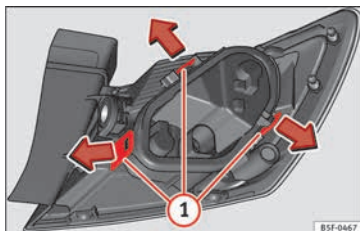

Fig. 117 Retaining tabs on reverse side of tail light.
- Remove the bulb holder » **Fig. 117** unlocking the retaining tabs **①**.